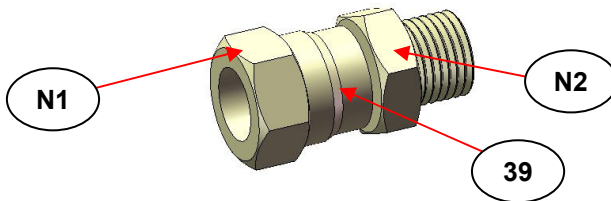
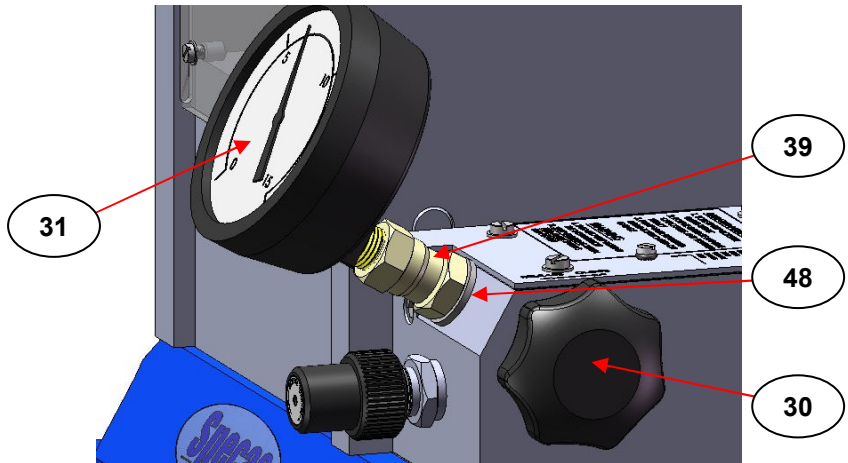
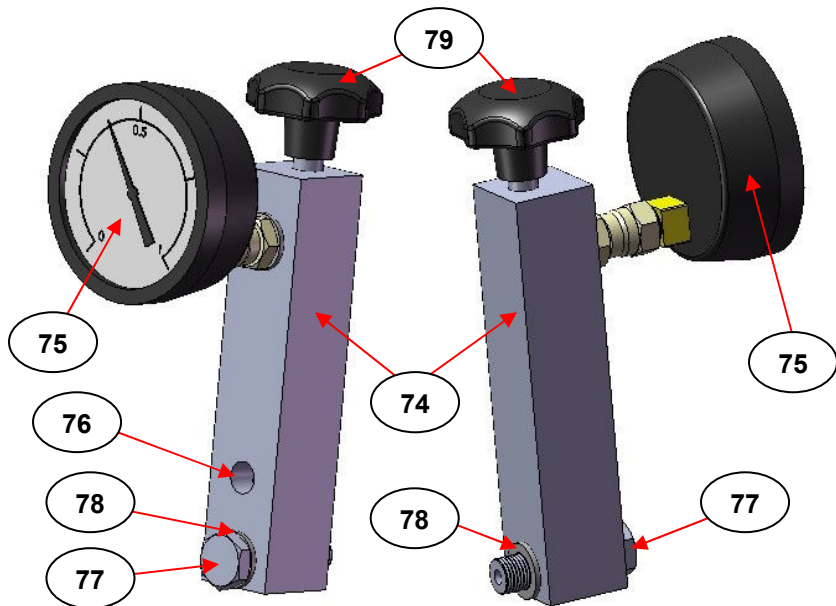

Fig 1. Load Gauge Connector Part of Press
Fig 2. Removal of 15/25 Ton Load Gauge from Manual Press
Fig 3. Front and Rear View of Low Tonnage Gauge Kit
Loosen the gauge connector (39) fitting to the load gauge (31) by unscrewing the top nut (N1) connection (see Fig 1.) using the 19mm A/F end of the spanner supplied.
Carefully remove the load gauge (31) and put it by for safe keeping. (See Fig 2.)
The gauge connector (39) is then removed from the pump block assembly by unscrewing the lower nut (N2) connection by the “Dowty” seal (48). (See Fig 1. and Fig 2.) (Unscrew - turn (N2) anticlockwise.)
Transfer the gauge connector (39) and Dowty seal (48) parts for fitting to the bore opening (76) of the manifold body (74) by tightening of the lower nut connection (N2). (See Fig 1. and Fig 3.) If the removed Dowty seal (48) from the press is not suitable for re-use, then use the spare seal provided with the low tonnage gauge kit.
Remove the dust cover cap from the fixing bolt (77) and Dowty seal (78) parts at the base of the manifold assembly (74). (See Fig 3.)
Close the pressure release handle (30) of the press by turning clockwise (see Fig 2.) and begin to hand pump the press (slowly) in the usual way. Oil will be pressurized and forced from the press reservoir up and into the manifold body (77) to register at the higher load tonnage gauge (31) fitted at the base of the manifold body (77) and towards the shut off valve tap assembly (79). Pump to apply a tonnage load of about 1 (one) ton (no more) against the metal block to be registered at the higher tonnage load gauge (31) as fitted.